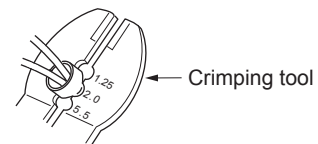

Fig.1-1-6
d) As shown in Fig.1-1-6, use the crimping tool to crimp the metal sleeve at the center position. Be sure to crimp fully to the complete closure of the tool.